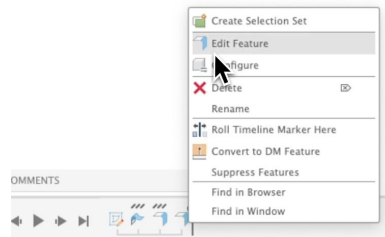

Figure 1.10
- To add bend reliefs, go to the **Timeline** → **right-click Flange** → **Edit Feature** (see Figure 1.10).